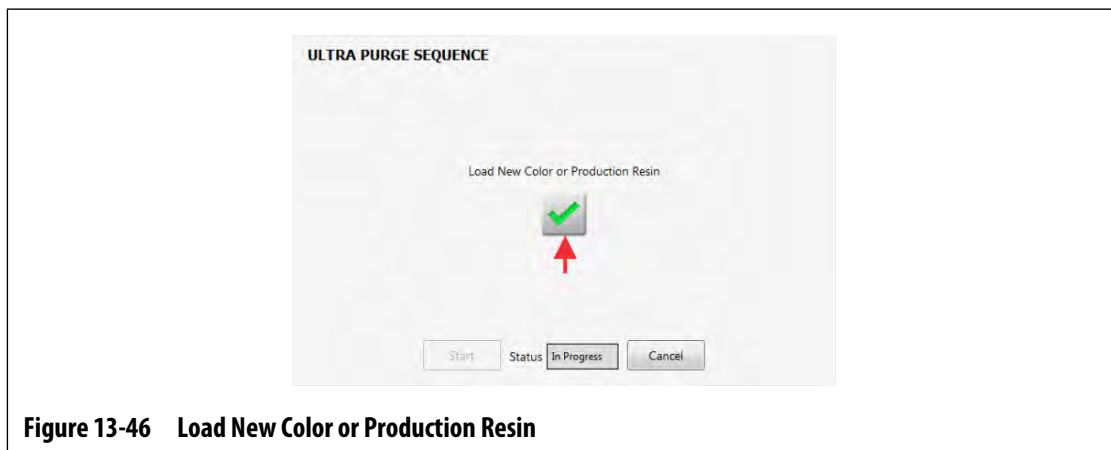

Figure 13-46 Load New Color or Production Resin
13. Load the new production resin into the IMM (Figure 13-46).